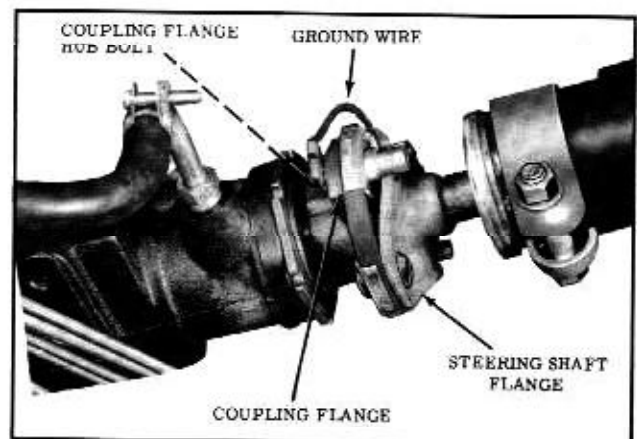

Fig. 4-1 Flexible Coupling
1. Remove the coupling flange hub bolt and lock washer. (Fig. 4-1)